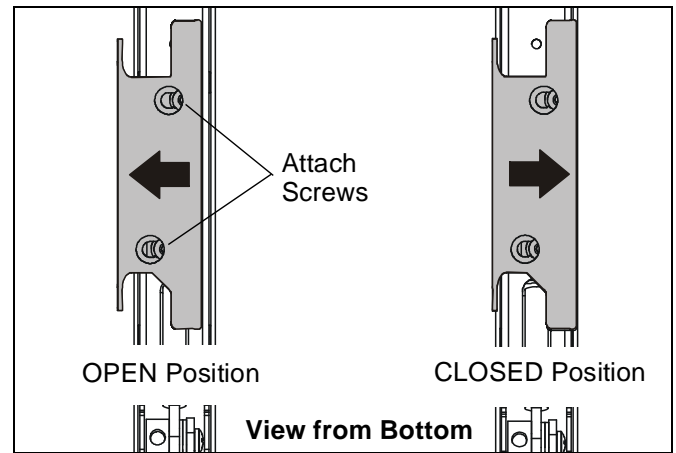

Figure 9:
2. Open the cable management bracket by sliding it towards the edge of the arm (See Figure 9).
**NOTE:** If necessary, cable management bracket attach screws may be loosened using hex key (M).